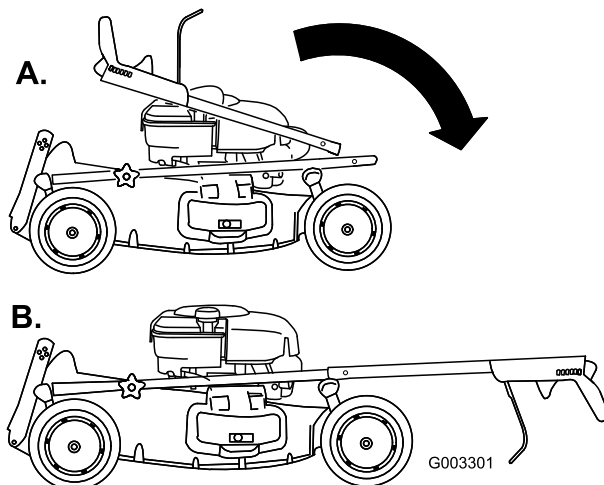

Figure 4
2. Carefully move the upper handle forward and place the ends over the lower handle so they are in line and nest together; (Figure 4).